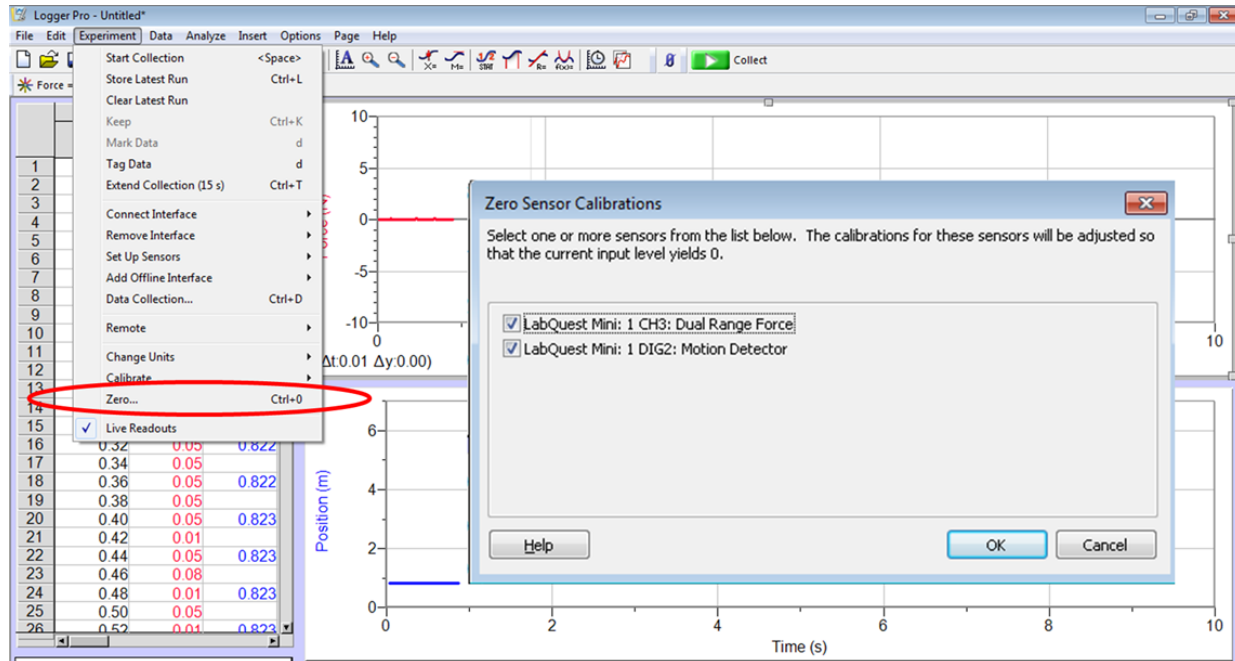

Figure 3: After the chosen mass is hung on the spring and the system comes to an equilibrium position, zero the force and the position sensors, as shown above.
3. Under the menu “Experiment”, choose “zero” to zero both the force and the position sensors (see Figure 3).